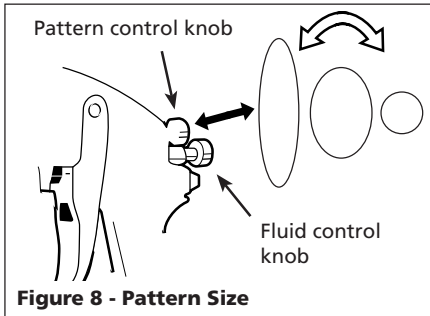

Figure 8 - Pattern Size
2. Set pattern size to desired shape. For full pattern, open pattern control knob by turning counterclockwise. For a round pattern, turn pattern control knob clockwise (See Figure 8).
3. Turn fluid control knob fully clockwise until closed (See Figure 8).